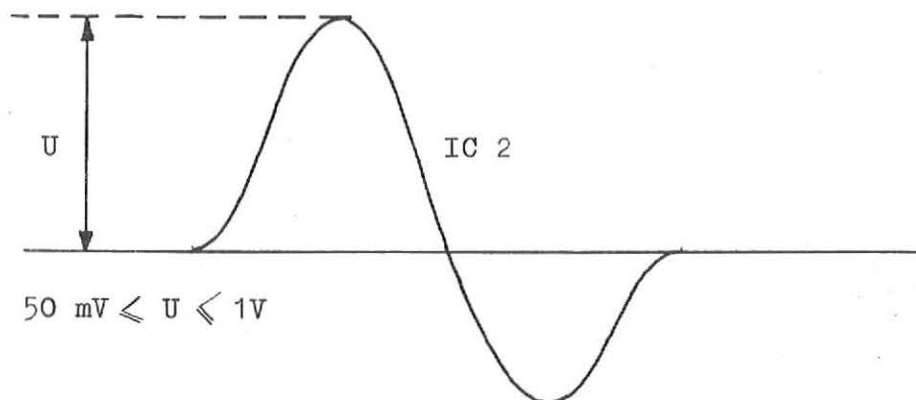

Fig 7-23
4. Check if the signal in the oscilloscope is the same as fig 7-23.